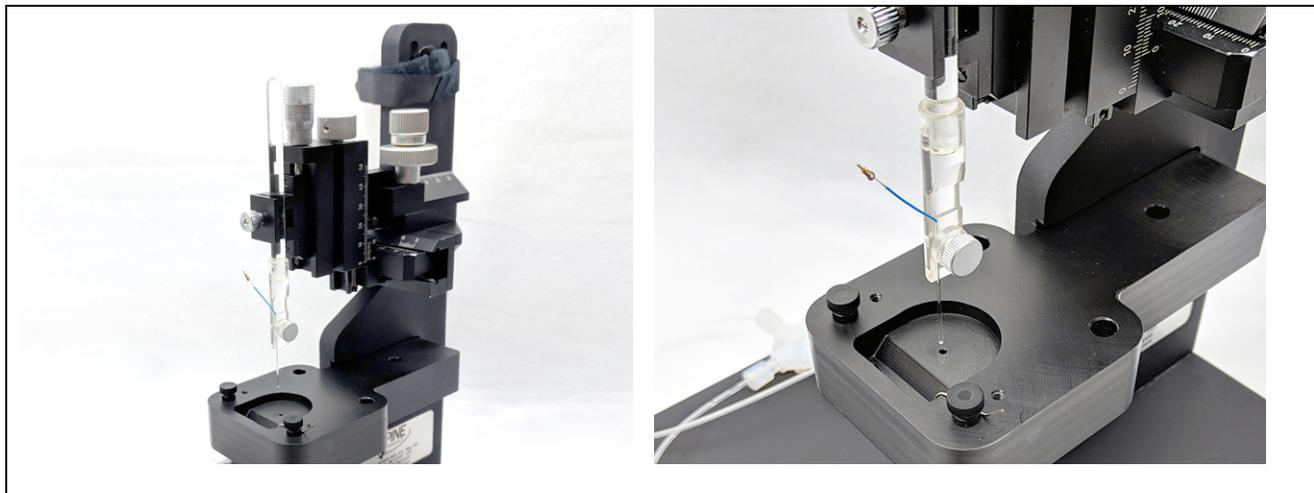

Figure 4-3. Installation of Microelectrode Holder into Micromanipulator
3. Slide the electrode holder arm (at its smaller diameter) into the clip and tighten the screw to secure the holder in place (see: Figure 4-3).
4. Use the x-axis (left and right) and y-axis (into and out of the page) to center the CFME above the solution delivery hole. Some labs use flashlights to aid in this process (see: Figure 4-3).